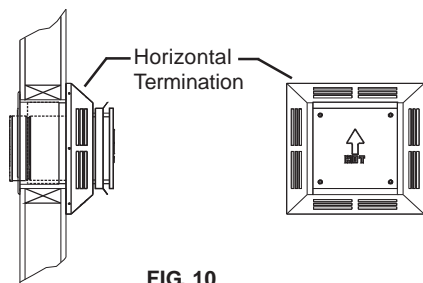

FIG. 10
6) Install the Horizontal Termination to the exterior wall using 4 all purpose screws through the holes located at each corner of the termination. Make sure the arrow (embossed on the front of the termination) is pointing up (see Fig. 10). If the house has vinyl siding, a Vinyl Siding Standoff (VS) must be installed prior to installing the Horizontal Termination. Refer to the Appliance Manufacturer to determine if one is recommended. Attach the Vinyl Siding Standoff to the exterior side of the wall (making sure it is level and centered with respect to the opening) with screws (provided) at each corner of the Standoff. Attach the Horizontal Termination to the standoff (see FIG. 11).